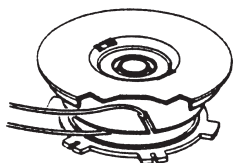

Fig. 17.
1. Turn the locking cap (A) anticlockwise and remove it (either by hand or using the spanner supplied).
2. Remove the spool (B) and the spring (C) from the spindle (D).
3. Remove the existing trimmer line (H).
4. First measure, then cut a 8.6 metre length of trimmer line (\varnothing 2 mm). Fold it in the middle so that you have two ends measuring 4.3 metres. Place the middle of the fold in one of the slots in the disc dividing the spool See fig.17.